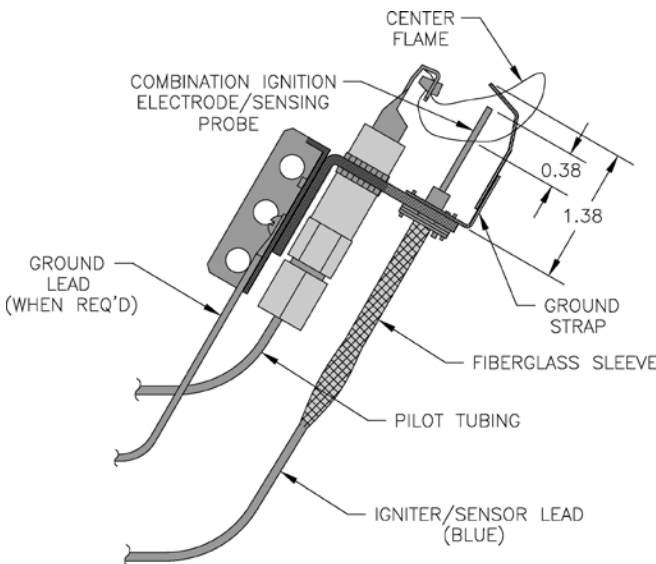

Figure 9: Pilot Burner Flame, Intermittent Ignition System (EI), Honeywell Q3481 Pilot
- a. Intermittent Ignition (EI), see Figure 9. The pilot burner produces three (3) flames. The center flame should be steady, medium hard blue enveloping 3/8 to 1/2 inch of sensing probe. If flames are yellow and lazy, follow instructions TO TURN OFF GAS TO APPLIANCE (see Figure 4 for Models IN31 through IN11 or Figure 6 for Model IN12) and contact a qualified service agency.